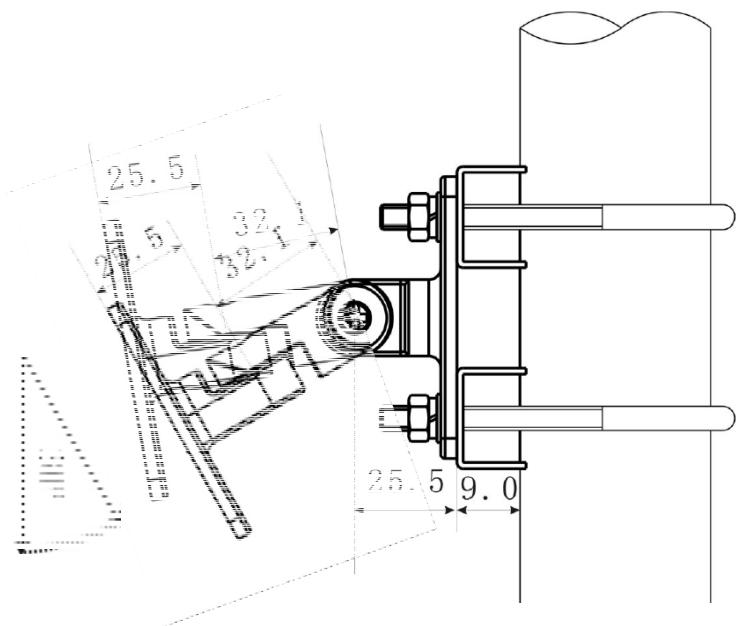

Figure 2.3 Outdoor antenna installation
2. Use the tilt angle tool to set a downward tilt angle of at least 30 degrees from horizontal (see Figure 2.3). Tighten the mount joint screws to ensure permanent placement at the required angle.
4. Complete the installation of the MTP9900 LAA in the weather enclosure and the connection of the antenna cables as shown in Figure 2.3.